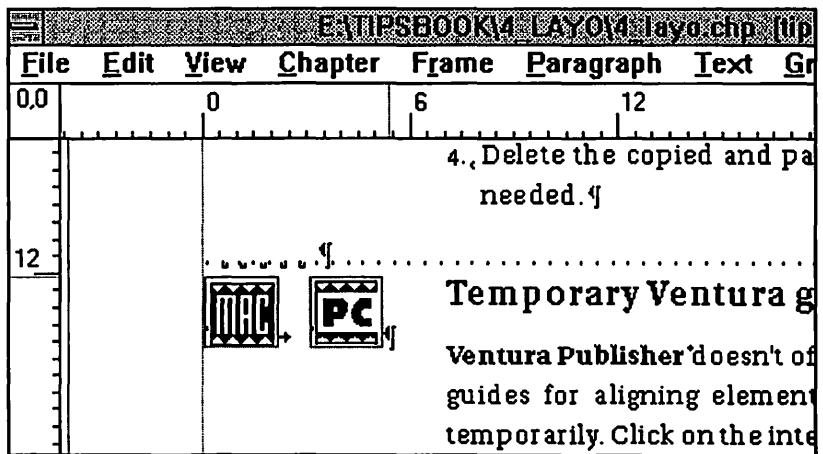

FIGURE 10-5 A *tab* (the arrow symbol) placed between the Mac and PC frame anchors made it easy to adjust the spacing between the icons.
- The temporary label <BOTH> required that both icons be placed side-by-side. Thus the third macro changed <BOTH> to the code @ANCHORS = <\$&MAC[-]>tab<\$&PC[-]>. (Note that an actual tab character, not the word *tab*, is inserted between the two anchor codes.) We gave the dual-icon paragraph a different style name (@ANCHORS instead of @ANCHOR) so that we could freely modify the line's indent and the icons' spacing independently of the single-icon lines (Figure 10-5). Adjusting the spacing between the Mac and PC icons was easily accomplished by changing the tab stop via the TAB SETTINGS command under the Paragraph menu.